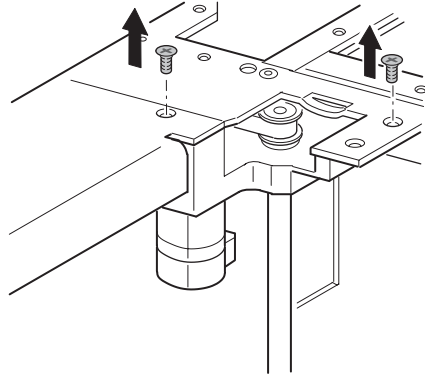

Figure 3-56: Rear vertical axis assembly mounting screw locations
13. Remove the two rear vertical axis assembly top mounting screws (see Figure 3-56).